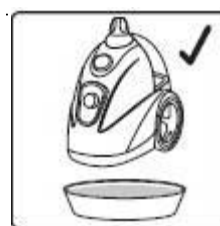

fig.29
5. Maintenance is complete. (fig.29)